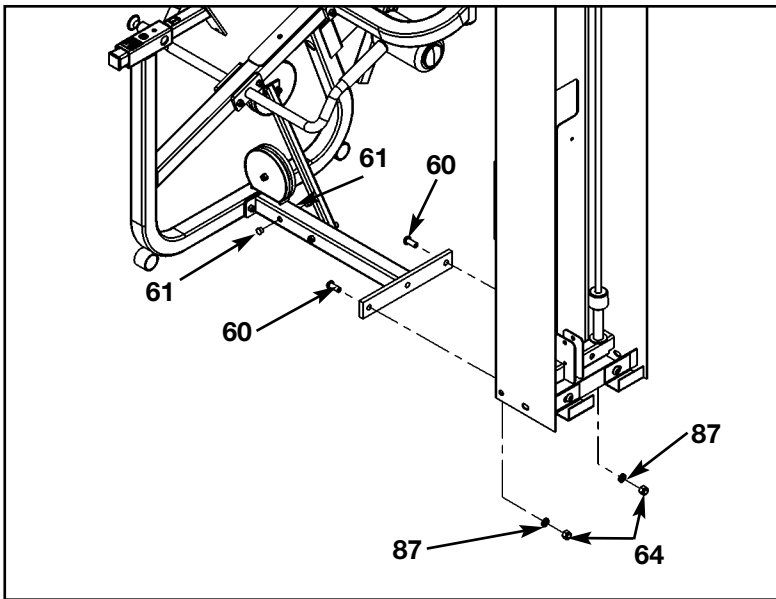

Figure 11
- E.** Install hole plugs (#61) to the Leg Extension/Leg Curl Assembly (Modular/Tandem configurations only). See Figure 11.